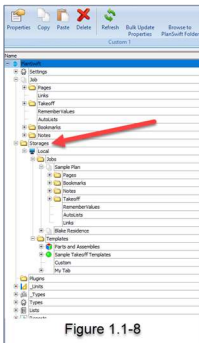

Figure 8
11. If you need to access templates, they can be accessed via the Storages (**Job\Storages**). The example in Figure 8 shows only a Local storage being set up. If you have a LAN, that would show up as well. Templates can live anywhere on your network. Right-click on the **Local** to open the **Properties** box for **Local**.